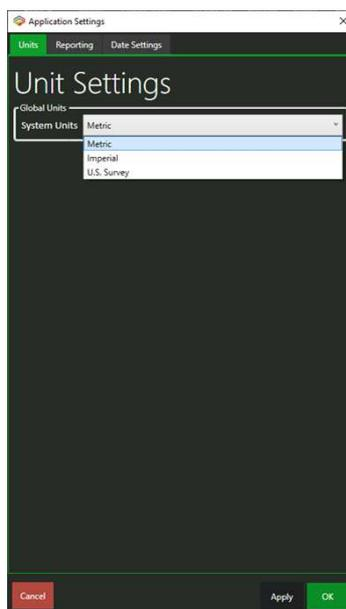

Figure 53. Unit Settings tab.
2. By default, this will display the *Units* tab (Figure 53).
2. This will open the Application Settings dialog (Figure 53).